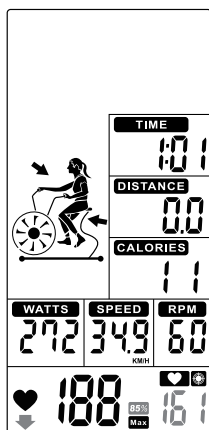

Figure 48
- ⑤ When Heart Rate exceeds to 85%, & **85%** & value will flash. And buzzer sounds in every 10s until user HR goes below 85% (Figure 48).